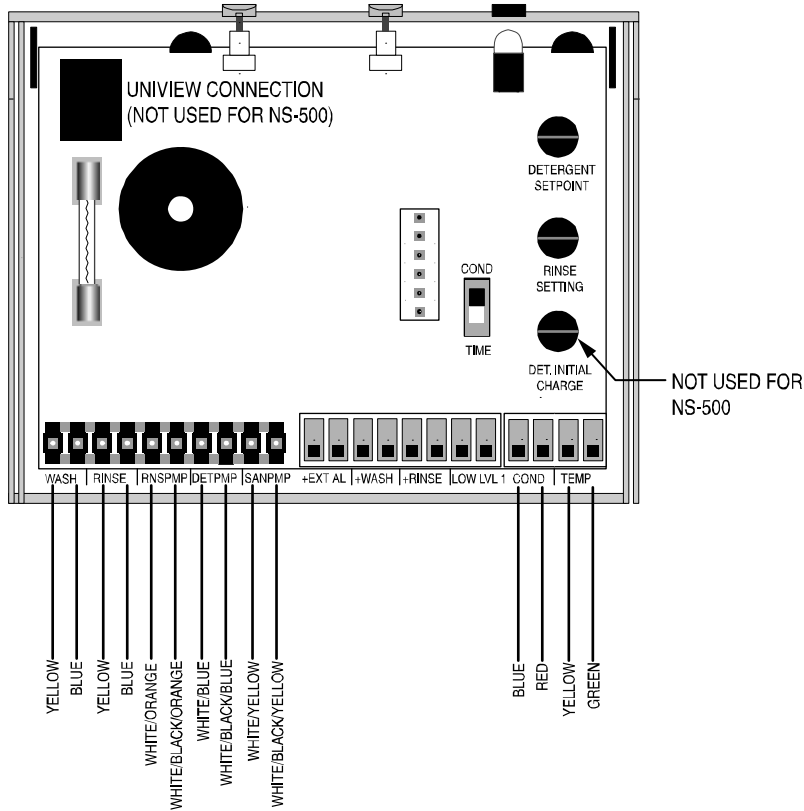

Figure 5. D3000 PCB with transformer, pump and probe wire connections from NS-1000E.
12. Put the D3000 PCB back into place and connect all of the pump harnesses appropriately. Figure 5 shows the correct wire colors from the NS-1000E wiring to positions on the D3000 PCB. You may need to cut tie wraps so that the wire harnesses can reach their connection points.